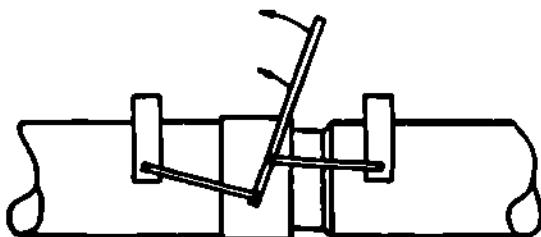

Figure 1-77. Frame Puller
- b) The frame puller (Figure 1-77) comprises two frames that clamp the pipe on each side of the coupling. They are joined by two handles on each side that connect to levers. When pressure is applied to the levers, the frame tightens on the pipe, giving a positive pull between the two pipes.